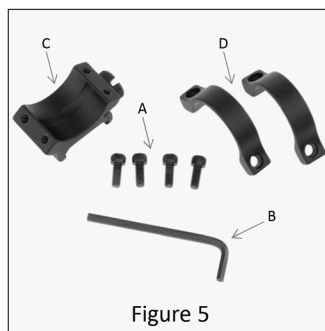

Figure 5
6. Once the appropriate location of the Quad Lock Mount along the handle of the light has been determined, remove all 4 of the Cap Head Screws (Figure 5-A) using the supplied Allen Wrench (Figure 5-B).
7. While holding the lower half of the Quad Lock Mount (Figure 5-C) in place on the light, press each of the top rails (Figure 5-D) in to alignment with the lower half and start all 4 of the Cap Head Screws (Figure 5-A). IMPORTANT: Get all 4 of the Cap Head Screws partially installed before tightening.